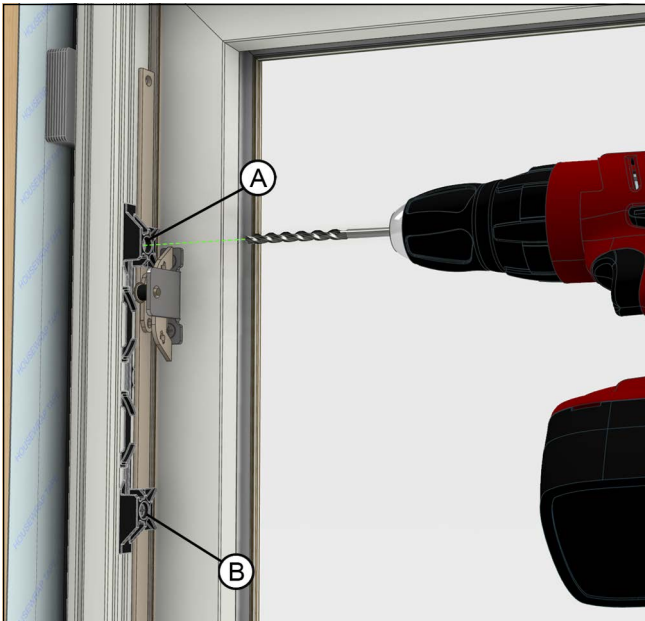

Figure 20
**9. Casement/Awning:** Drill holes through the frame with 5/32" drill bit at holes (A locations) with tie bar screw locations. See Figure 20.